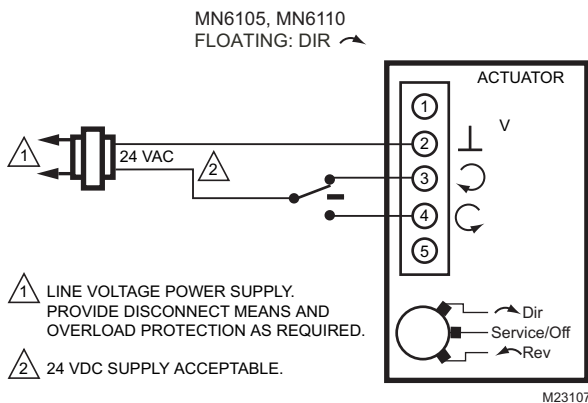

Fig. 12. Wiring MN6105 for Floating Control.
- Wire actuator using Fig. 12–16. For other wiring configurations, see actuator data sheet.